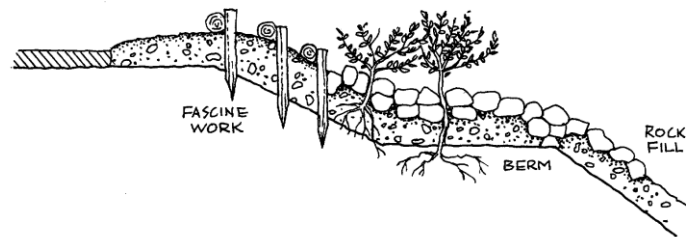

Figure 3: Bio-engineered solution to slope stabilisation
- e) Battering of all banks shall be such that cut and fill embankments are no steeper than previous natural slopes unless otherwise permitted by the Engineer. Cut and fill embankments steeper than previous ground levels shall be revegetated immediately on completion of trimming or shall be protected against erosion using bioengineered stabilisation measures as shown in figures 3 & 4. Deep-rooted vegetation such as Vetiver grass is effective to stabilise steeper embankments.